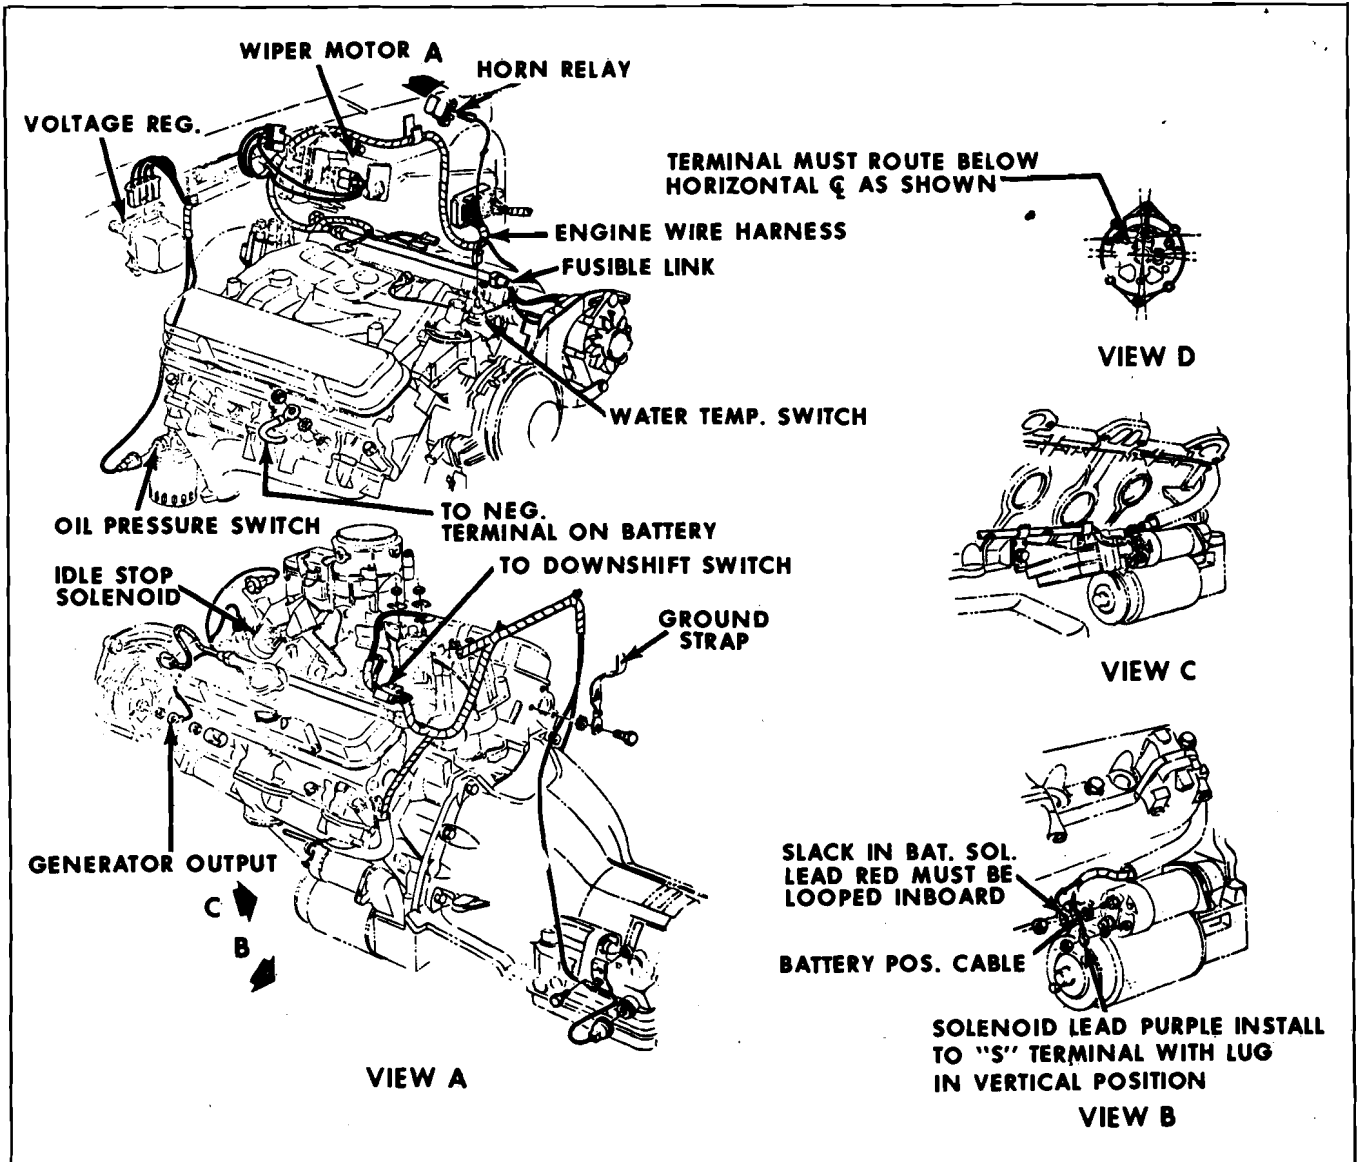
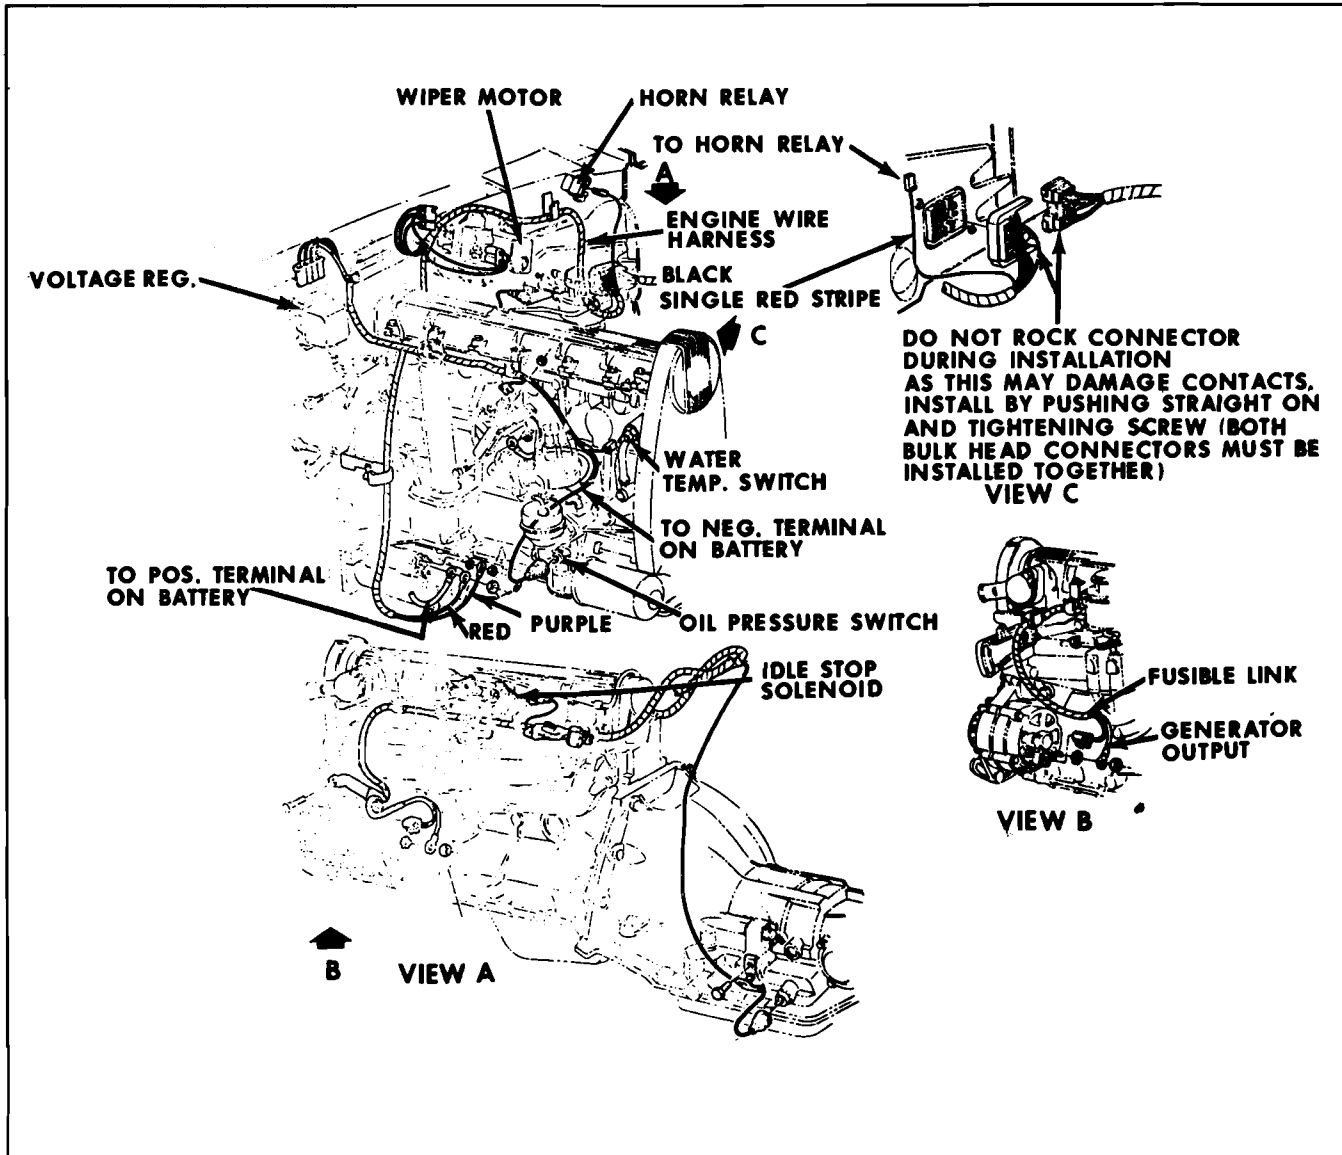

Fig. 12-21 Typical V8 ENGINE Harness Installation
Fig. 12-22 Typical 6-Cylinder Engine Harness Installation
2. Locate burned out link. Figs. 12-21 and 12-22 show location of fusible links.
Engine wire harness routing and connection may be determined from Fig. 12-21 for 8 cylinder applications and Fig. 12-22 for 6 cylinder.